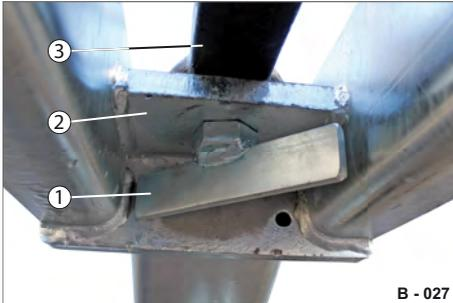
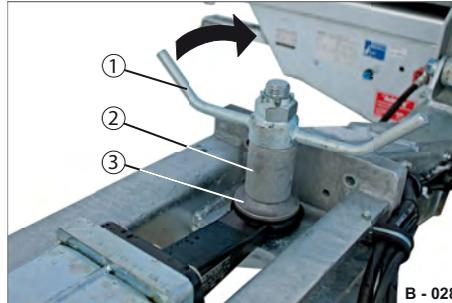

Fig. 24 Towing eye D40 locked at top
Fig. 25 Securing the towing eye D40 at top
► Insert the fastening bolt (Fig. 24/1) from below through the bracket (Fig. 24/2) and the towing eye (Fig. 24/3).
- Engage the shim rest (Fig. 25/3) and the spacer (Fig. 25/2) from above on the fastening bolt of the towing eye (Fig. 24/3).
- Screw the wing nut (Fig. 25/1) onto the fastening bolt.